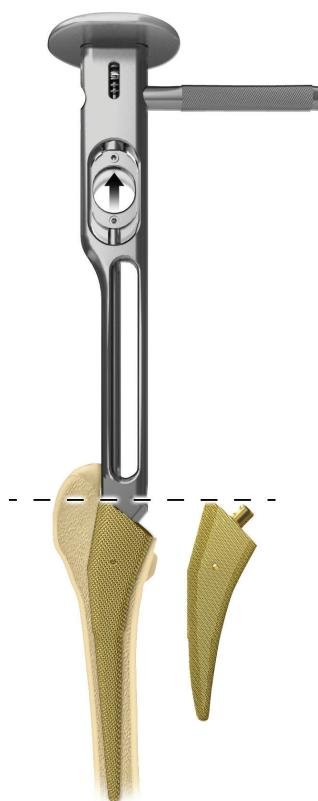

Figure 5
Select the smallest sized Taperloc Complete broach and attach it to the broach handle by pulling back on the trigger to engage the broach (Figure 5). Orientation of the broach should take into account the medial/lateral and anterior/posterior position of the medullary canal. Progressively increase the broach size to enlarge the canal until the broach engages the medial and lateral cortex and cannot be advanced deeper.
**Note:** When preparing for the Taperloc Complete Microplasty® stem placement, be sure to use the appropriate broach as shown above (Figure 5). Insertion technique is the same for both Taperloc Complete broaches and stems.